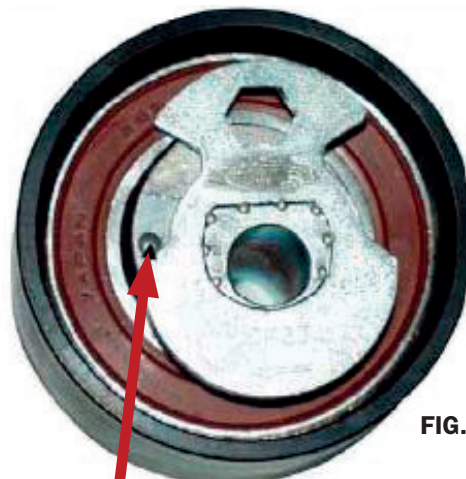

FIG. 2
7. Turn the tensioner clockwise (with the Allen key) until the checkmark is positioned just above the lower edge of cut-out part (Fig 2).
11. Rotate the engine 2 revolutions **clockwise**, check if the tensioner mark is still just above lower edge of the cut-out part (Fig 2). In case the position is not OK restart this procedure from the beginning.